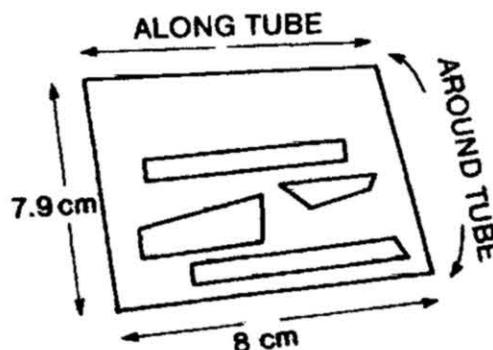

Fig. 6
**C** Trim the large body panels to size (as shown Fig. 6), using a ruler to mark the panels, and scissors to cut them.